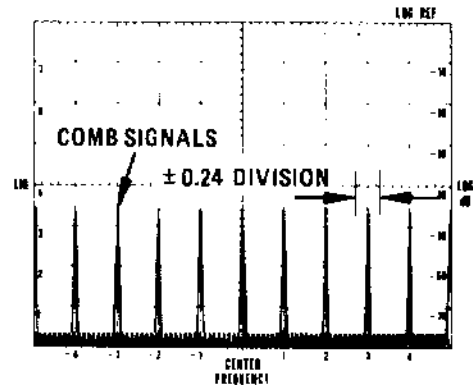

Figure 4-6. Scan Width Accuracy Measurement
- With control settings as in step 1 above, a comb signal occurs every 10 MHz on the display (see Figure 4-6). Turn FREQUENCY and FINE TUNE to line up a comb signal with the far left graticule line.